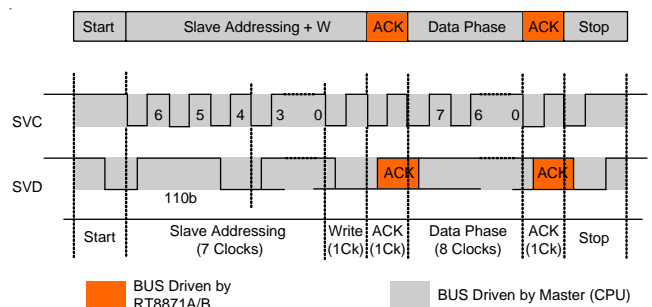

Figure 1. SVI Communication-Send Byte
slave receives the SVI transactions and acts accordingly. SVI wire protocol is based on fast-mode I2C as shown in Figure 1. SVI interface also considers two additional signals needed to manage the system start-up. These signals are EN and PWROK. The device asserts a PGOOD signal if the output voltages are in regulation.
The Set VID Command is defined as the command sequence that the CPU issues on the SVI bus to modify the voltage level of the Core section and NB section, as shown is Figure 1. During a Set VID Command, the processor sends the start (Start) sequence followed by the address of the Section which the Set VID Command applies. The processor then sends the write (WRITE) bit. After the write bit, the Voltage Regulator (VR) sends the acknowledge (ACK) bit. The processor then sends the VID bits code during the data phase. The VR sends the acknowledge (ACK) bit after the data phase. Finally, the processor sends the stop (Stop) sequence. After the VR has detected the stop, it performs an On-the-Fly VID transition for the addressed section(s). Refer to Table 3 for the details of SVI send byte.